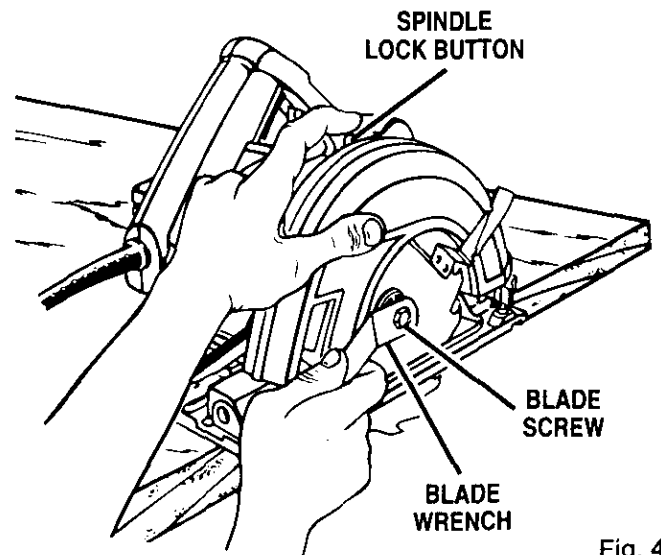

Fig. 4
- Position your saw as shown in figure 4, depress spindle lock button, and remove blade screw. **Note:** Turn blade screw counterclockwise to remove.